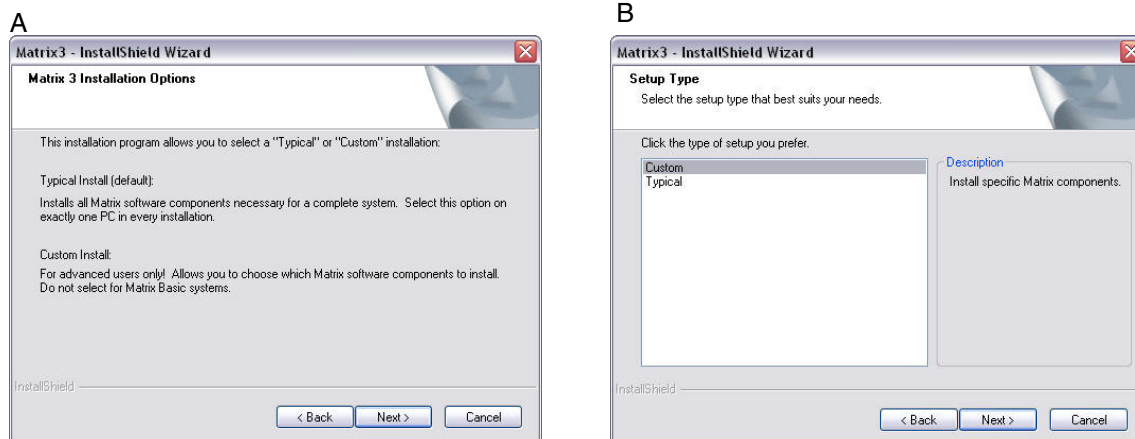

FIG. 14
5. After clicking NEXT to accept the License Agreement, the Installation Options screen (A) shown in FIG. 14 displays. This screen describes the two installation options available for selection.
After clicking NEXT, the Setup Type screen, FIG. 14 (B), displays. This screen is used to select the type of installation you will do.